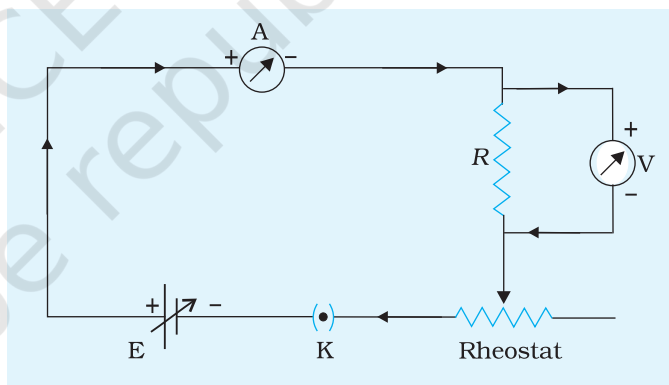

Fig. A 1.1 Assembling of given components
1. Connect the components as shown in Fig. A 1.1.